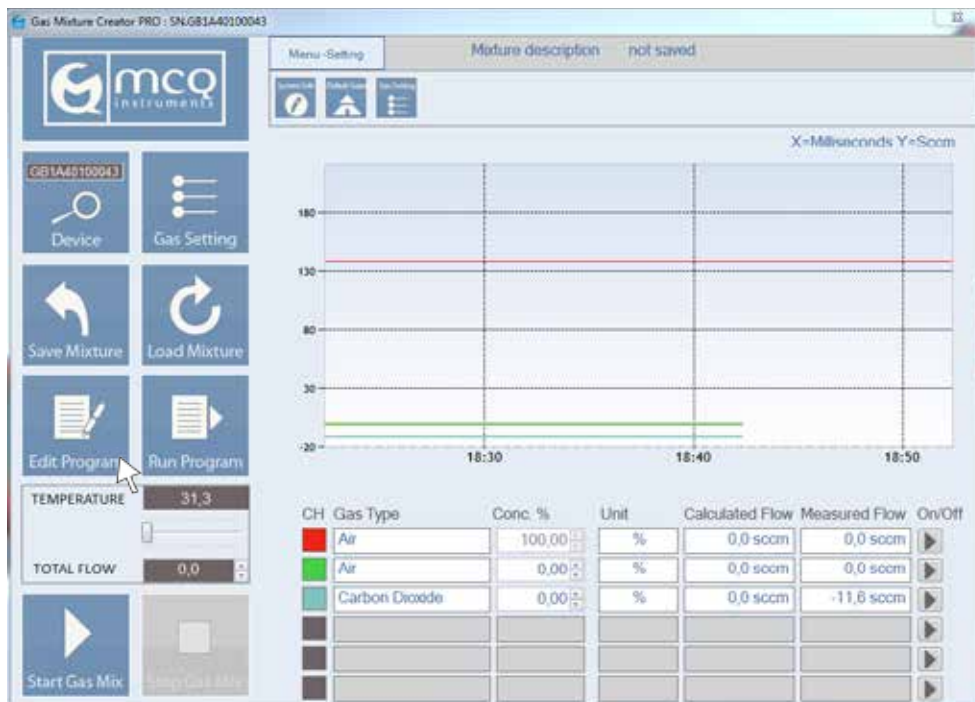

Fig. 30
1. Launch the “**Edit – Run program**” clicking on the MCQ Gas Mixture Creator’s icon named “**Edit Program**”. (Fig. 30)